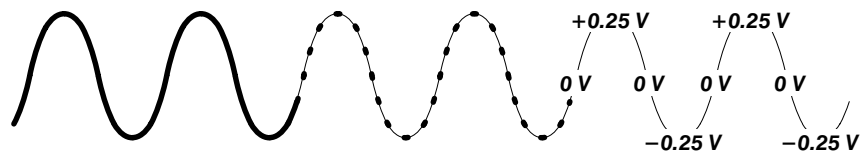

Figure 2-2: Acquisition: Input Analog Signal, Sample, and Digitize
- The **acquisition** system, which lets you select the modes for converting analog data into digital form (Figure 2-2). See page 2-17.